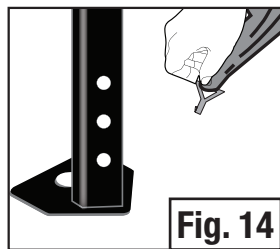

Fig. 14
- Stretch SunWall downward until taut, insert hooks at the two bottom corners of SunWall into holes on the lower part of frame posts. (Fig. 14)